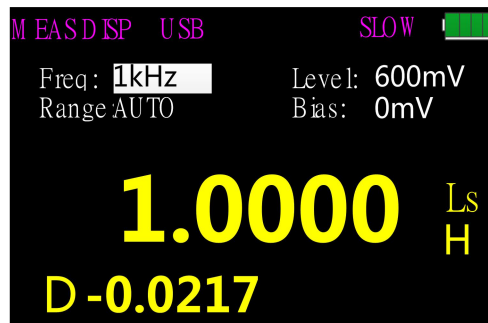

Figure 20
2. Press the **AUTO/R/C/L/Z** key until Ls is displayed on the interface which means to select inductance measurement, shown in figure 20;